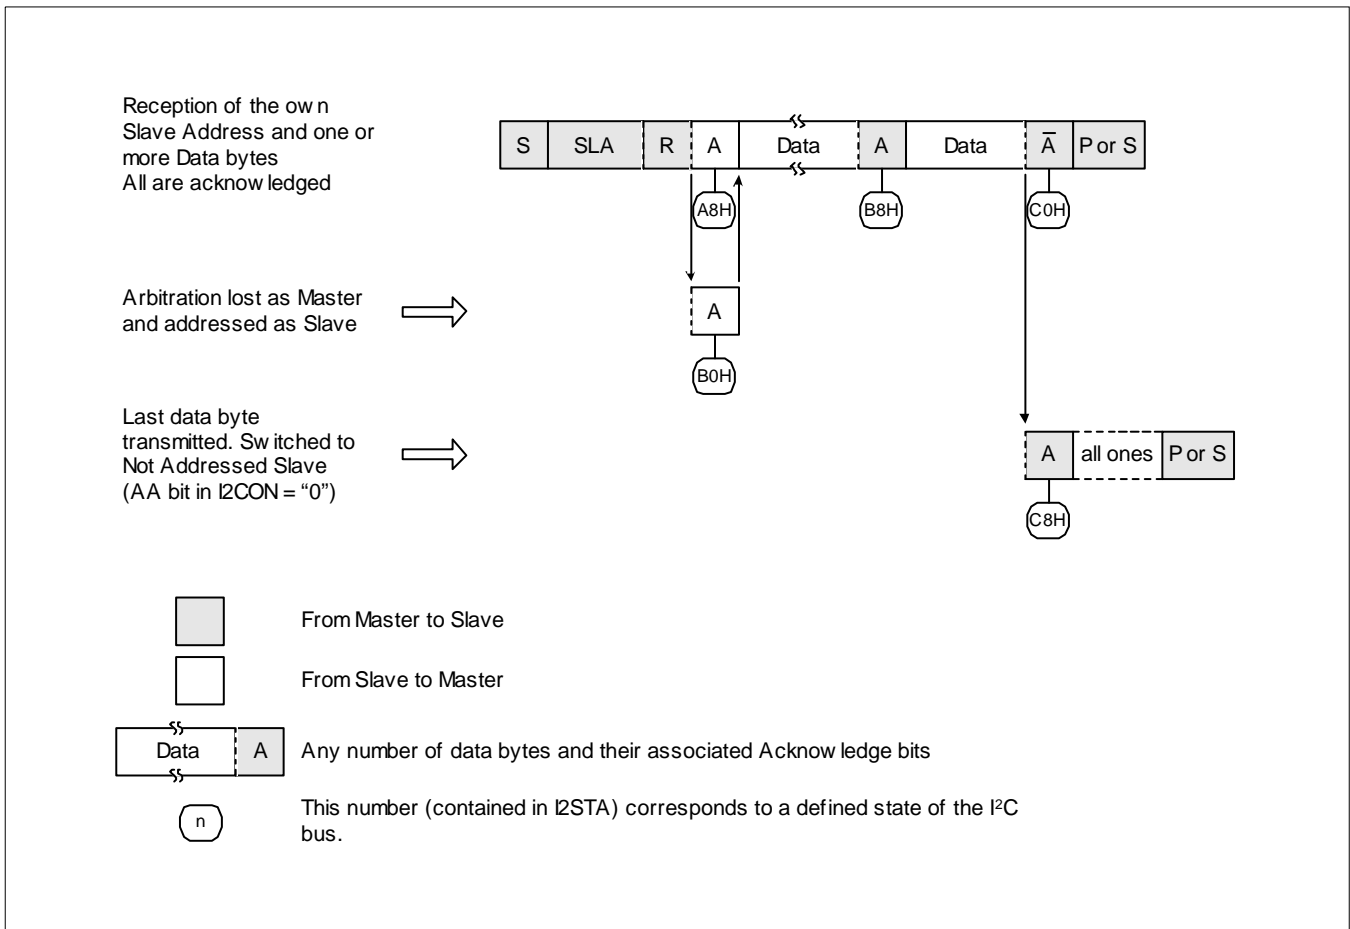

Figure 32: Format and States of the Slave Transmitter Mode
In the slave transmitter mode, a number of data bytes are transmitted to a master receiver (see Figure 32). Data transfer is initialized as in the slave receiver mode. When I2ADR and I2CON have been initialized, the I²C block waits until it is addressed by its own slave address followed by the data direction bit which must be "1" (R) for the I²C block to operate in the slave transmitter mode. After its own slave address and the R bit have been received, the serial interrupt flag (SI) is set and a valid status code can be read from I2STAT. This status code is used to vector to a state service routine, and the appropriate action to be taken for each of these status codes is detailed in Table 105. The slave transmitter mode may also be entered if arbitration is lost while the I²C block is in the master mode (see state B0H).